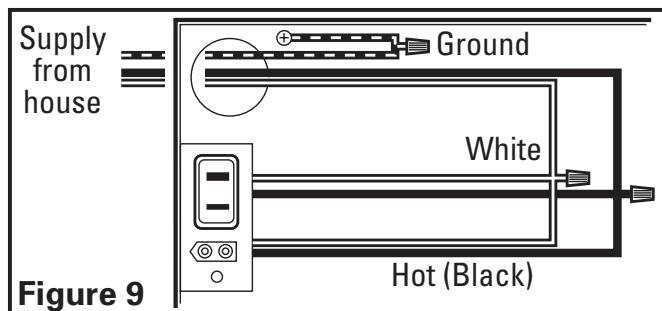

Figure 9
- 2a. From where you have access to inside the fan's junction box, connect the one White wire from the house to both the White wire from the fan's light receptacle and the White wire from the fan's exhaust receptacle. Connect the Black wire from the wall switch to both the Black wire from the fan's light receptacle and the Black wire from the fan's exhaust receptacle. Connect the ground wire from the house to the Green wire from the fan's grounding screw (**Figure 9**). Use approved methods for all connections.